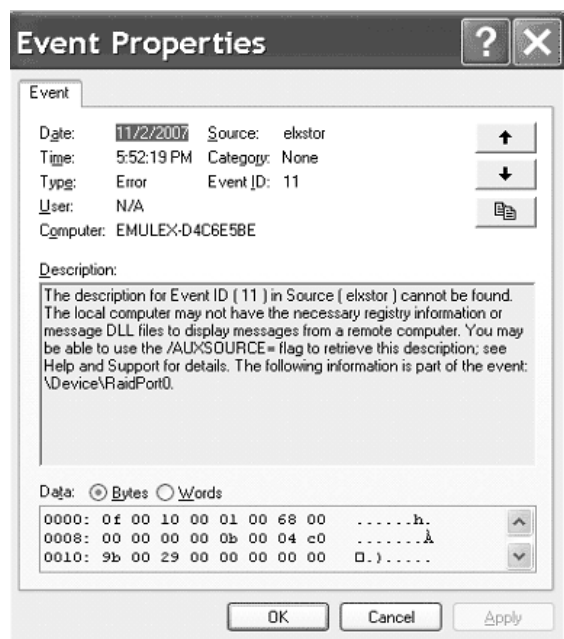

Figure A-1 Event Properties
3. Examine the entry at offset 0x10 and Event ID 11. The Emulex event code is found in byte 0010 and supplementary data is in the byte offsets 0011 through 0013 (in example Figure A-1, byte 0010 = 9b, byte 0011 = 00, byte 0012 = 29 and byte 0013 = 00).